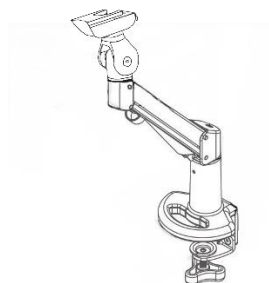

Figure 5 - Device Holder
2. **Device Holder** (Figure 5): every device is supplied with a device holder. This component permits to support the device during the measurements. Its design allows the user to adjust the device height and angle to perform the test with the patient in the correct position.